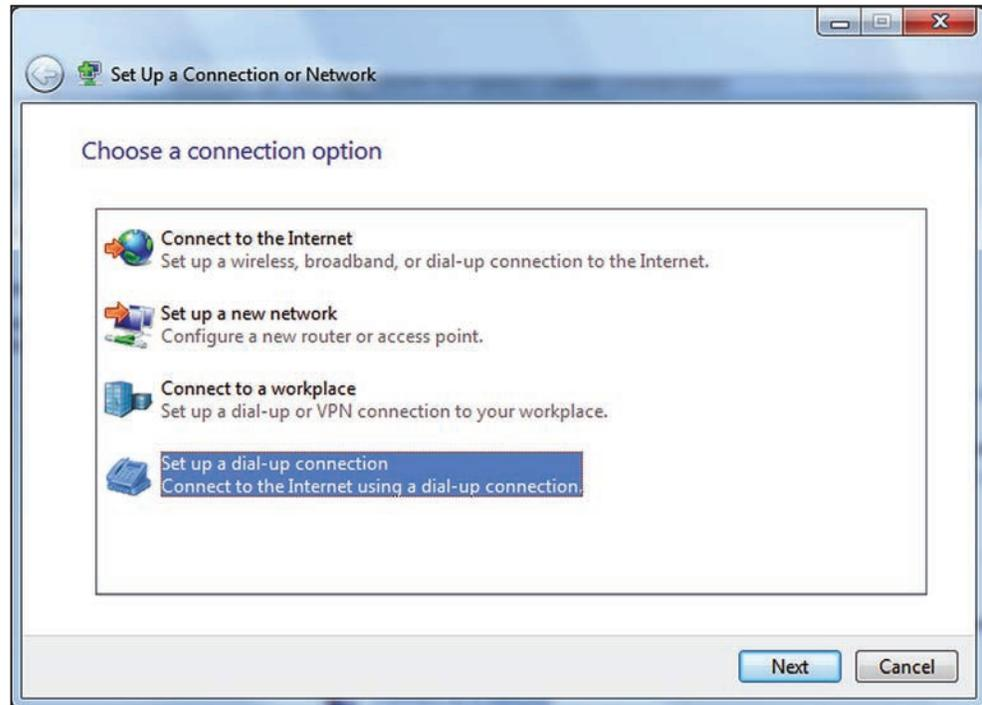

Figure 10. The Set Up a Connection or Network dialog box showing how to choose a connection option.
STEP 2. Click on the “Set up a dial-up connection” entry. See Figure 10.